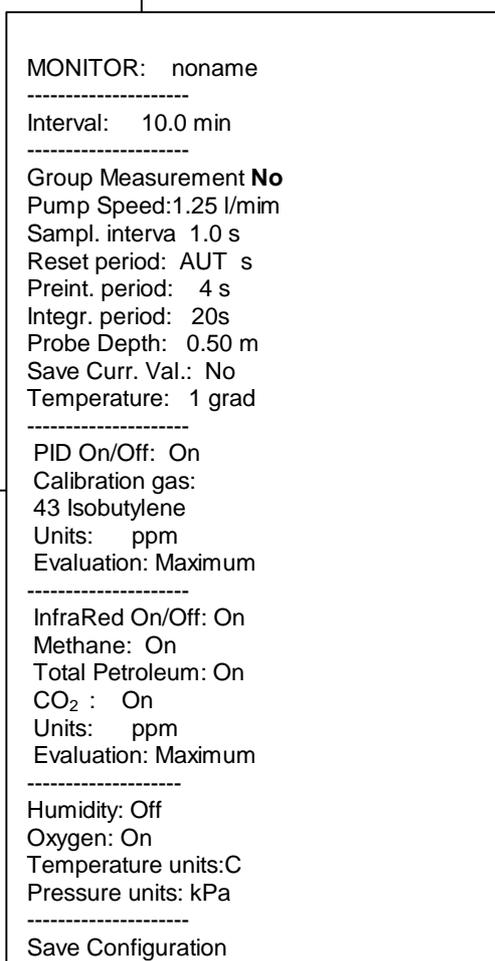

Figure 28: Default Monitoring Station File
- For entering a **new** monitoring station select *<new>*. Monitoring Station Configuration File (Figure 28) will be opened. After entering a name and making possible changes return to Main Menu by pressing *?* and following the instructions on the screen. Name of the new monitoring station will be displayed after *MONITOR* in the Main Menu.